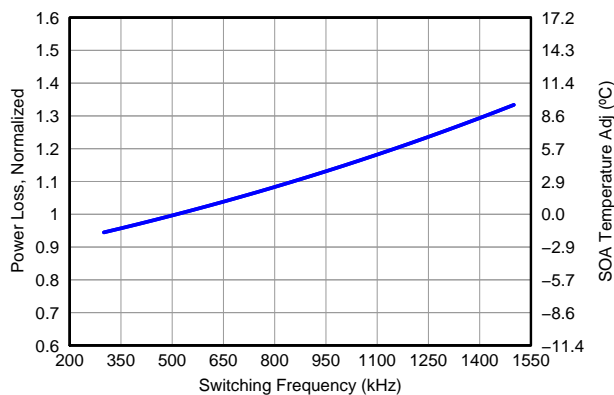

Figure 6. Normalized Power Loss vs Switching Frequency
- Normalized Power Loss for switching frequency ≈ 1.15 (Figure 6)
- SOA adjustment for switching frequency $\approx 4.2^\circ\text{C}$ (Figure 6)